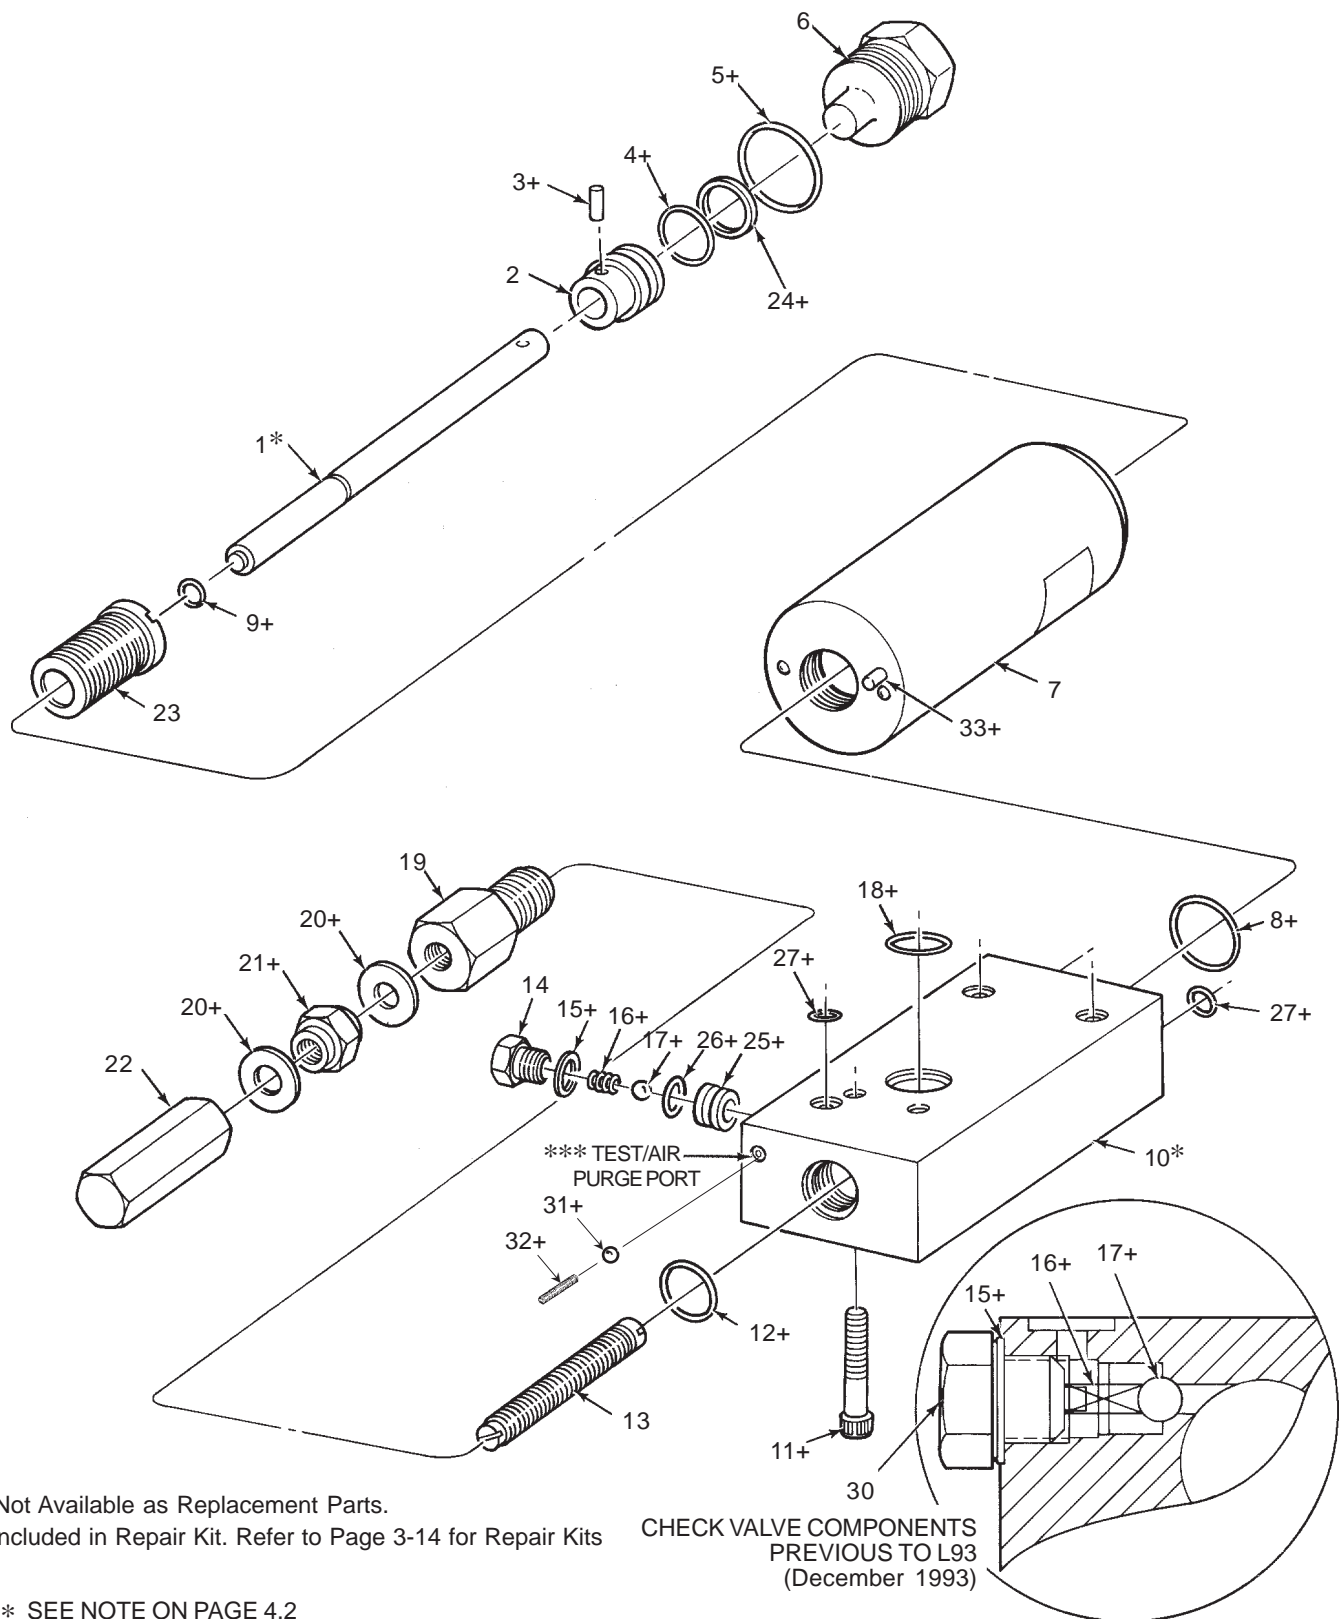

Figure 3-4. Hydraulic Pump Option H2 - Exploded View
3.5.1 General. Maintenance tips, disassembly and assembly procedures for hydraulic pump Option H2 are discussed in Paragraphs 3.5.2 through 3.5.4. An exploded view of the pump is shown Figure 3-4 and should be referred to during the discussion.
- a. Check four socket-head screws (11, Figure 3-4) to make sure they are tight. Loose screws could allow air and/or lubricant to leak between the pump and the manifold. This condition could result in erratic pump output.
- b. Check for leakage past gasket (15). Replace gasket if required.
- c. Check jam nut (21) to make sure it is tight against adjustment screw body (19). If the jam nut is loose, the adjustment screw (13) could rotate and cause the pump output to change. This condition could also result in lubricant leakage or in air being sucked into the lubricant.
Figure 3-4 shows hydraulic cylinder (7) separated from body (10). To achieve disassembly to this level requires special tools to remove hydraulic cylinder retainer (23). Normally, this level of disassembly is only performed at the factory. If scoring or wear marks are evident on the inner diameter of hydraulic cylinder (7) or body (10), the pump cannot be serviced and should be replaced.
- a. Separate pump from manifold by removing four socket-head screws (11). Remove and discard three o-rings (9) and one o-ring (18).
- b. Remove enclosure screw (14). Remove and discard gasket (15), check valve spring (16), steel ball (29), check seat (25), and o-ring (26).
- c. Remove adjustment screw body (19) and o-ring (12) from body (10). Discard o-ring (12). Removal of adjustment screw (13) from adjustment screw body (19) will change output setting when pump is reas-
3.5.5 Hydraulic Pump Option H2 Parts List. Table 3-4 identifies the parts indexed in Figure 3-4.